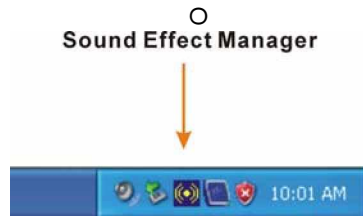

Figure D-2: Sound Effect Manager Icon [Task Bar]
- f The Sound Effect Manager icon in the Notification Area of the system task bar (see Figure D-2), or